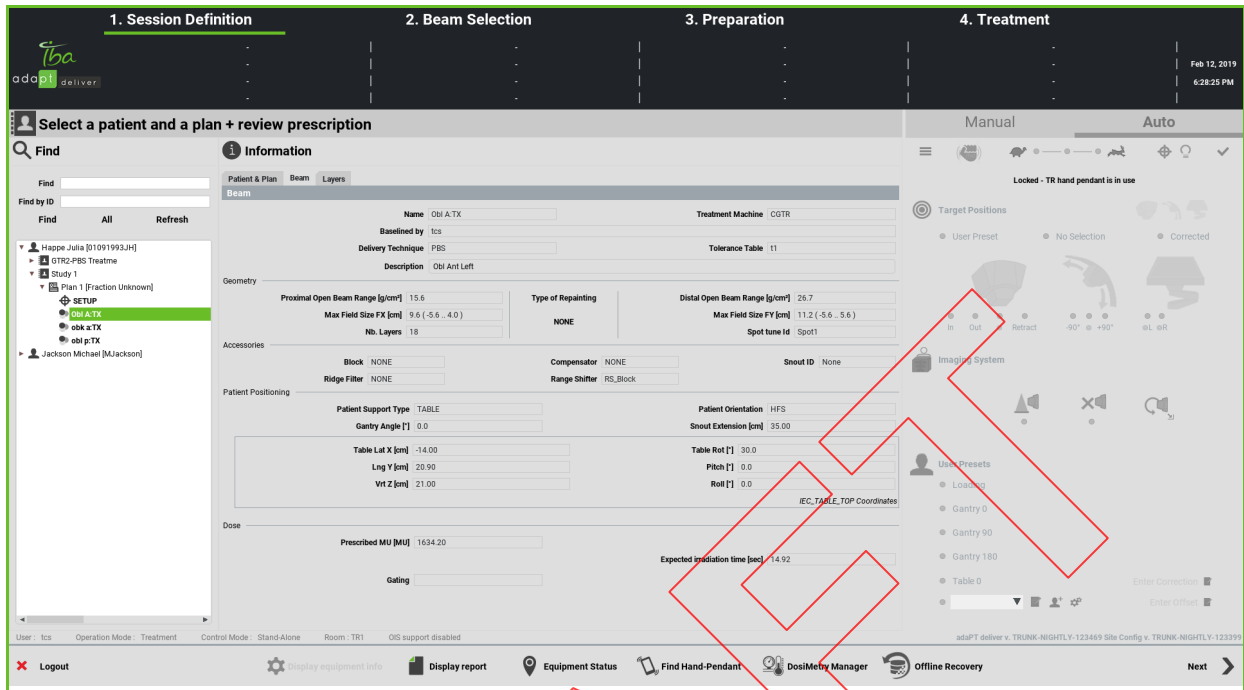

Figure 31-9. Session Definition Screen
- **Standalone mode:** the SESSION DEFINITION SCREEN appears (see Figure 31-9).
- **Standalone mode:** the SESSION DEFINITION SCREEN (see Figure 31-9).